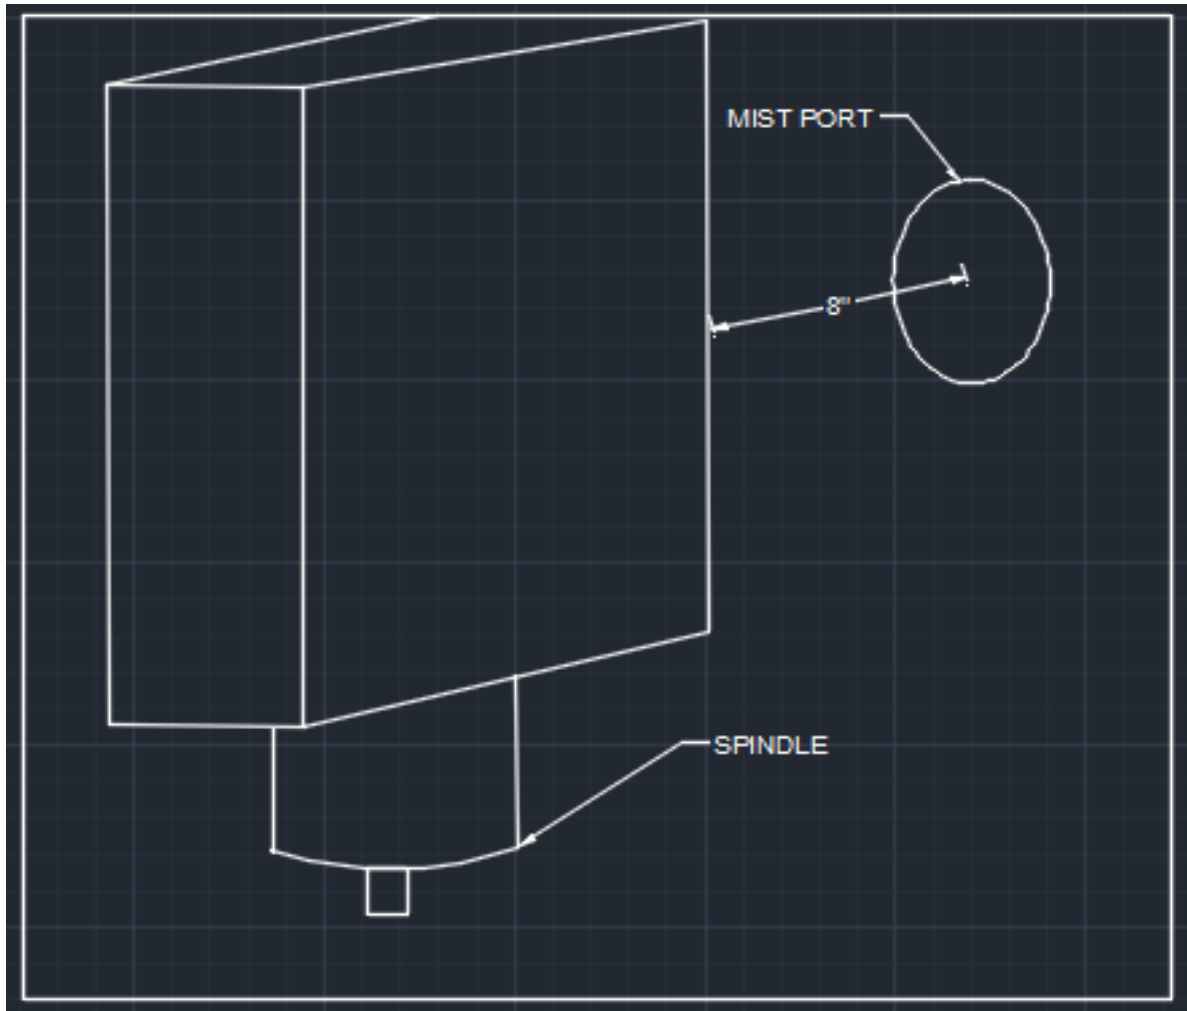

FIGURE: 2
Next, measure the distance (H) from any moving parts within the machine. If a spindle travels toward the mist port, move the spindle such that it is as close to the port as possible, this measurement must be greater than 5", otherwise a custom baffle must be requested. (See Below , FIGURE: 2)